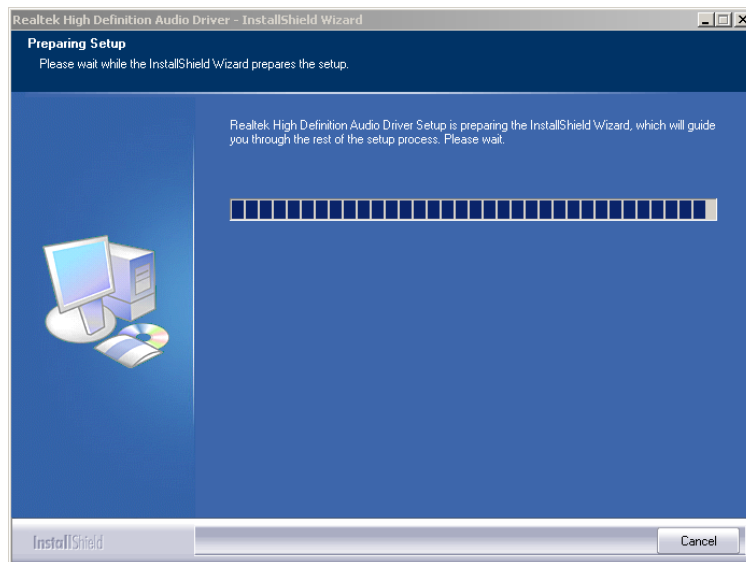

Figure 7-16: Preparing Setup Screen
Step 5: The **InstallShield Wizard** is prepared to guide the user through the rest of the process (**Figure 7-16**).